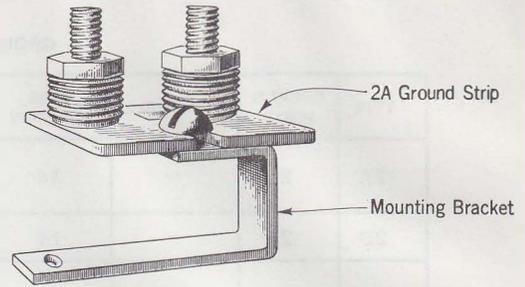

Fig. 66—2B Ground Strip
7.04 The 2B ground strip (Fig. 66) consists of an assembly of the 2A ground strip and a